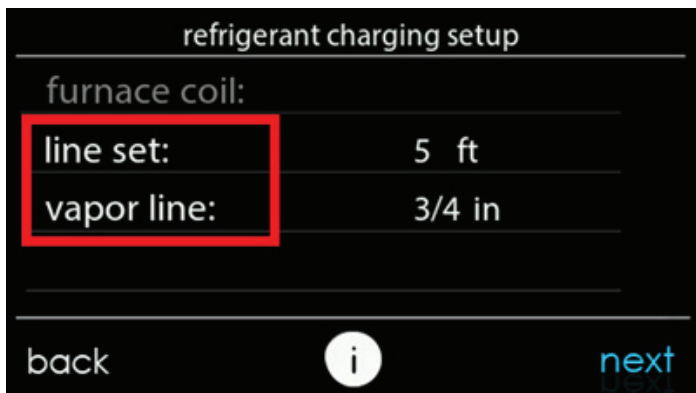
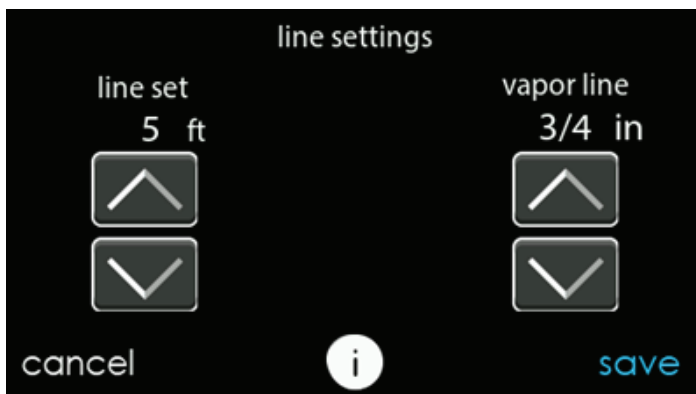

Fig. 16 – Select Line Set Length & Vapor Line Diameter A20035
Fig. 17 – Adjust Line Set Length & Vapor Line Diameter that is Installed A20036
11. Press the text "line set" and "vapor line" to choose line set length and vapor line diameter (see Fig. 16 and Fig. 17). After complete, press "next" to advance to next screen.